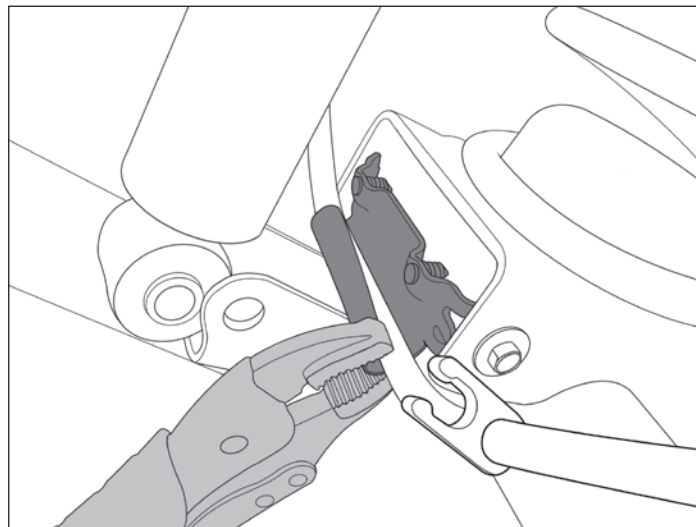

Figure 12
9. For 2011 or newer models, remove and discard factory bracket from the brake line (fig. 12).